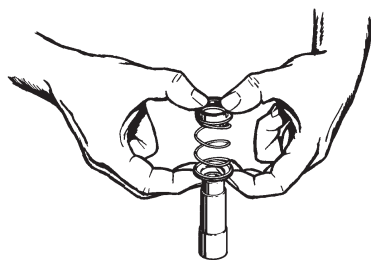

Figure 4-3
8. Remove the rotating element from the sleeve. Refer to Figure 4-3. The element normally adheres tightly to the sleeve and some force may be necessary to remove it. This is common and if care is taken, the element can be reassembled and reused. **It is recommended that a new rotating element be used for**